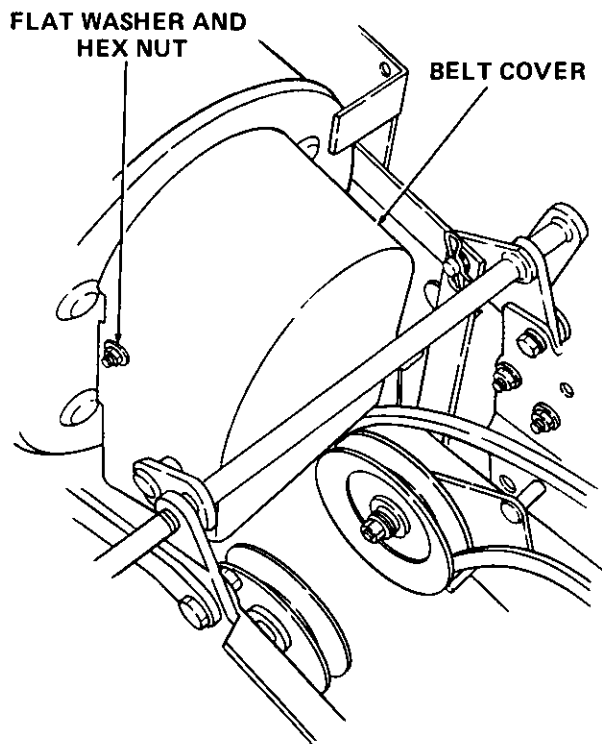

Figure 15
8. Remove belt cover from back of fan blower housing by removing two hex nuts and flat washers. Refer to Figure 15.